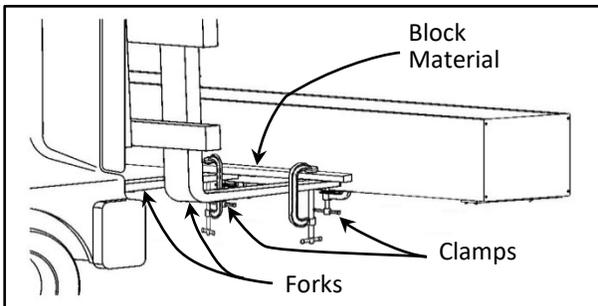
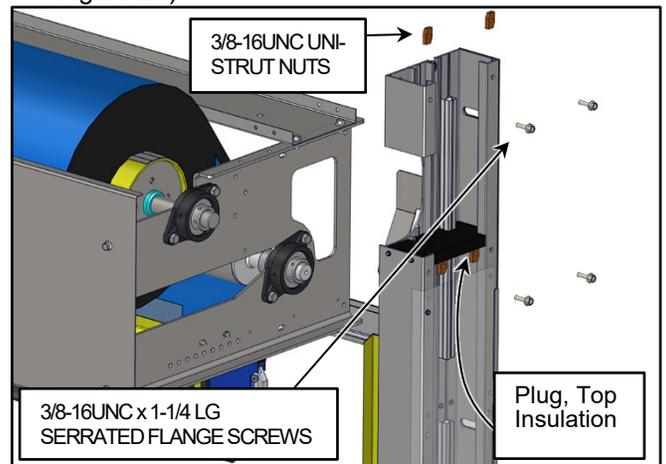

Figure 19
Figure 21 (Broken out view for clarity)
5. With the head assembly safely secured to the forklift, raise it up above the door to mount to the side columns. Guide the head in toward the wall while keeping the side column edges clear of the head assembly mating edges and wires exiting the top of the side columns. Line up the mating holes on the head assembly with the fastener holes in the side columns. (See Figure 19 - Figure 21)
6. Fasten the head to the level and plumb side column that's locked in place with the specified fasteners. **DO NOT** completely tighten the fasteners. Adjustments will need to be made yet. The hardware is located in the small parts carton. (See Figure 21)
- a. Install (4) $\frac{3}{8}$ -16UNC x $1\frac{1}{4}$ -in. hex flange machine screws and $\frac{3}{8}$ -16 Uni-Strut nuts on each side column/head mount (left and right side). (See Figure 21)
7. Next align and fasten the head assembly to the opposite side column just like in the previous steps. **DO NOT** completely tighten the fasteners. Adjustments will need to be made yet. (See Figure 21)